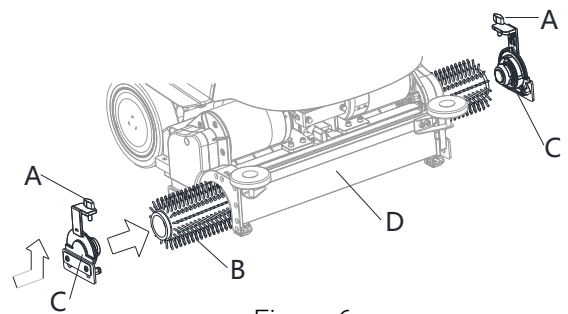

Figure 6
1. Make sure that the cylindrical deck (47) is lifted.
2. Turn off the machine with the start/stop button (62).
3. According to the kind of cleaning to be performed, install the brush (B, Fig. 6) and note the following:
- Release the screw (A) and remove the side hook (C) from brush deck (D).
- Install the brush (B) in the deck (D). Install the side hook (C) for brush and lock the screw (A).